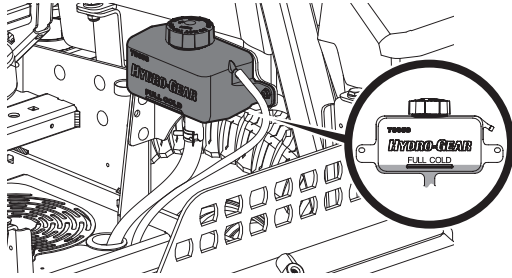

Fig. 42
- Turn the reservoir cap counterclockwise to remove, then check the oil level in the reservoir. Oil should be visible at the bottom of the cup, but the oil level must NOT be above the "FULL COLD" line (Fig. 42). DO NOT FILL THE RESERVOIR.